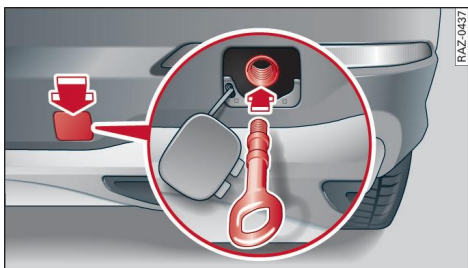

Fig. 181 Rear bumper: Fitting the towline anchorage
- ▶ Firmly press the cap inwards briefly at the top or bottom (varies according to model) ⇒ *Fig. 181*. The cap will be released from the bumper.